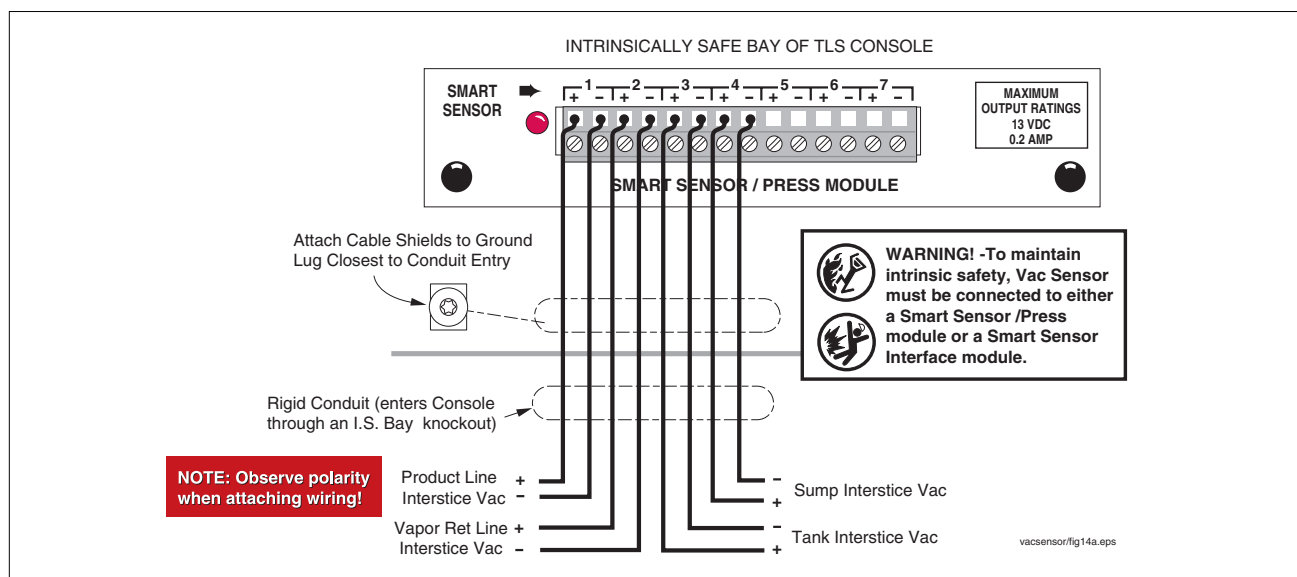

Figure 9. Attaching Vac Sensors to Smart Sensor / Press Module
1. Connect each Vac Sensor/Vac Float pair and the Vac Sensor/ Tank Interstitial Float pair cables to either a Smart Sensor/Press module or a Smart Sensor Interface module as shown in Figure 9. Note: at least one Smart Sensor/Press module must be installed in the console for proper Vac Sensor operation.